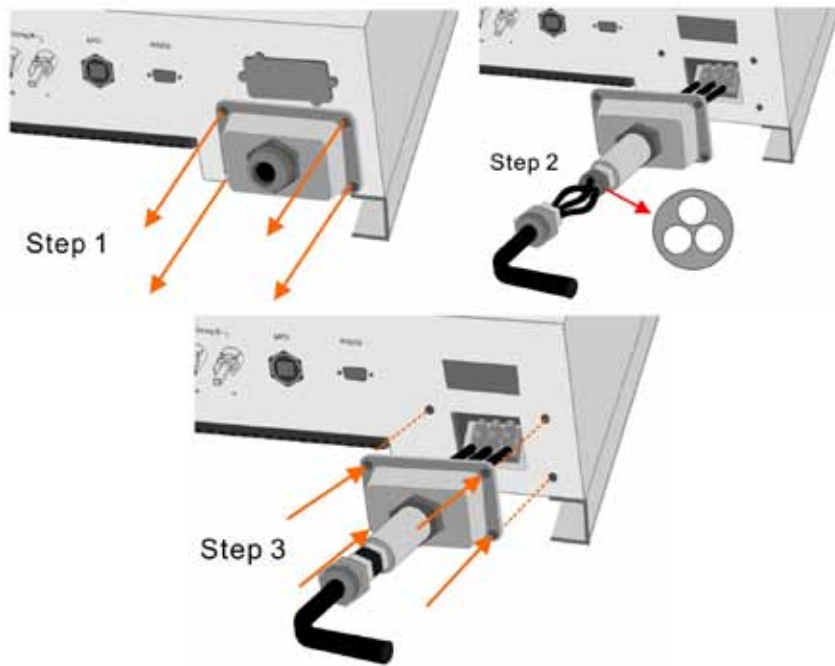

Fig. 2
Step 3. Remove the screws that secure the case of the SR Series Inverter and carefully remove the cover. Remove the connection from the cover as shown in Fig. 2.